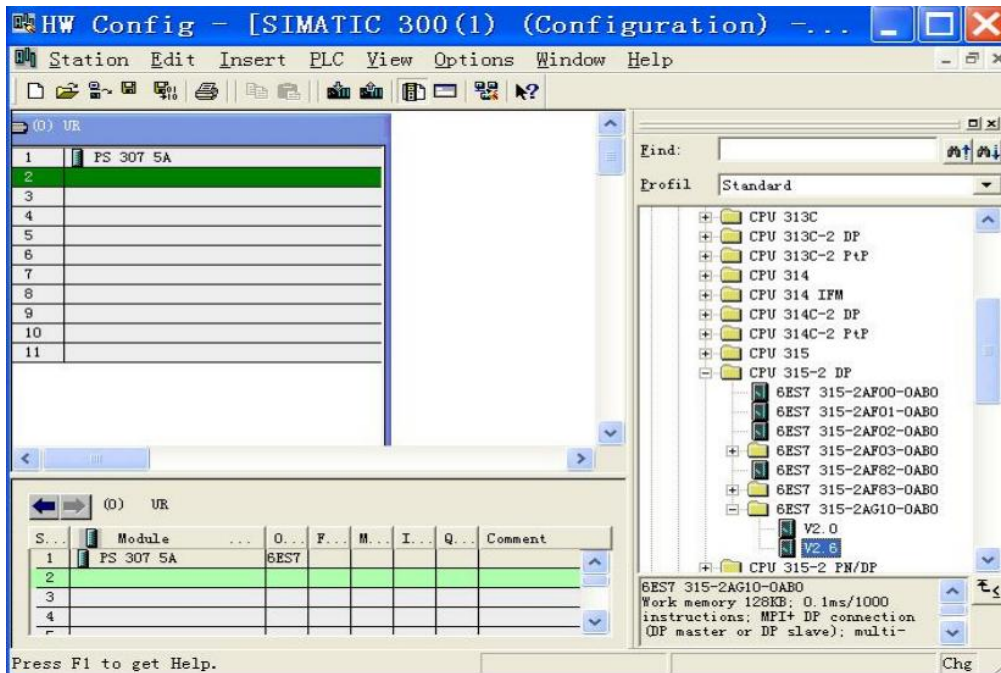

Figure 7
(8) Configure PLC integrated power supply: First select the rack UR1 slot, right-click Insert Object, and then select the actual PLC power supply (such as PS307 5A). As shown in Figure 7.